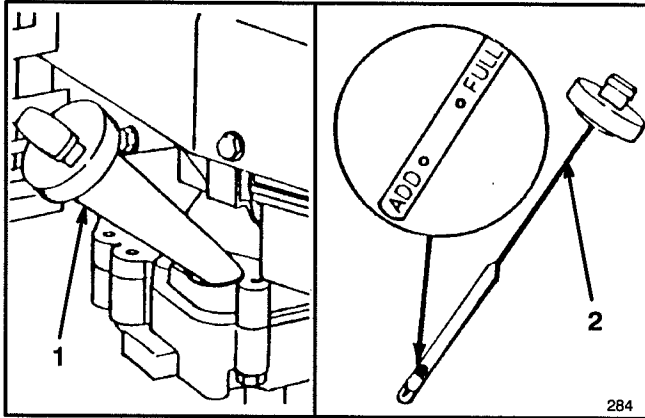

Figure 7
Fill crankcase with SAE 30 oil until oil level reaches FULL mark on dipstick as shown in Figure 7. The maximum crankcase capacity is 0.75 liters (25 ounces) of oil. Use any high quality detergent oil having the American Petroleum Institute (API) "service classification" — SF, SG or SH.
Before each use, ensure oil level is between ADD and FULL marks (Fig. 7). Add oil if level is low.
3. Wipe dipstick and insert it into filler neck. Rotate cap 1/4 turn. Then remove dipstick and check level of oil (Fig. 7). If level is low, add only enough oil to raise level to FULL mark on dipstick. **DO NOT FILL ABOVE FULL MARK BECAUSE ENGINE COULD BE DAMAGED WHEN STARTED. POUR OIL SLOWLY.**